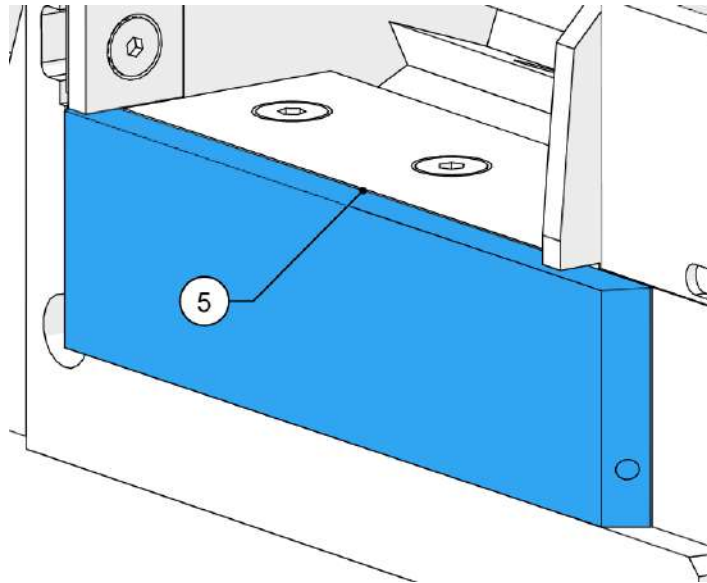

Figure 72 - Anvil tight to the bedplate
14. Insert the anvil through the side of the chamber, making sure that the anvil stays tight to the bed plate (5, Figure 72).